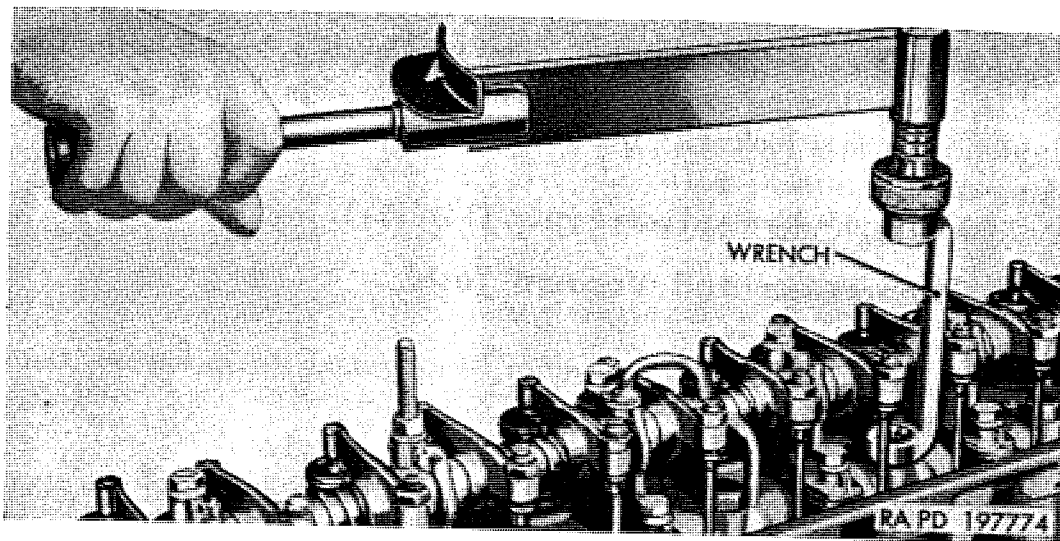

Figure 94. Use of torque wrench and wrench 41-W-2964-700 to tighten cylinder head bolts.
c. Check all cylinder head bolts, using wrench 41-W-2964-700 with torque wrench (fig. 94). Tighten in sequence indicated in figure 102.